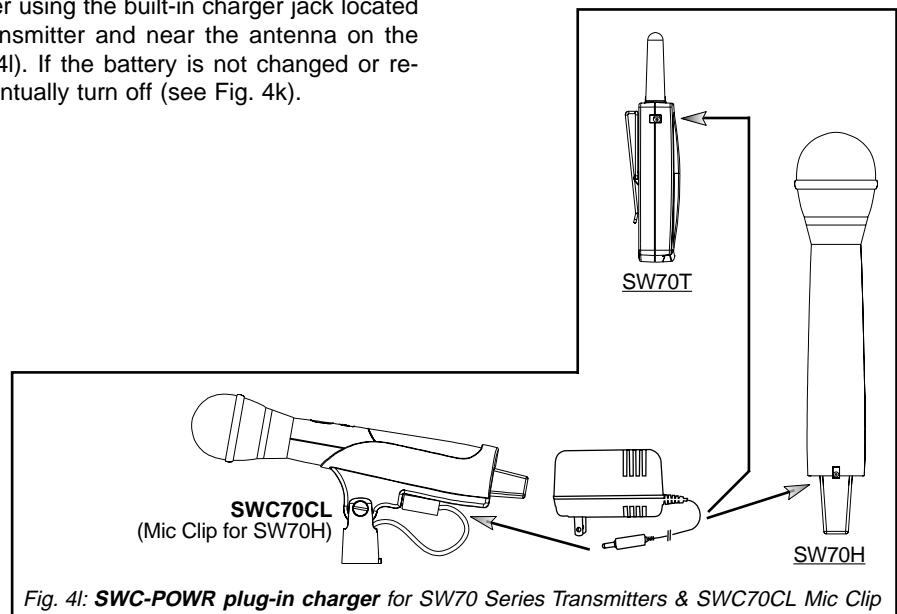

Fig. 4l: **SWC-POWR plug-in charger for SW70 Series Transmitters & SWC70CL Mic Clip**
6. Belt pack and handheld batteries can be recharged without removing them from the transmitters. Just connect charger plug to the transmitter jack (see Fig. 4l).
**Equipment Connections.** Each SW70T or SW70H transmitter comes equipped with an SWC-POWR Tireless Wireless™ plug-in charger (see Fig. 4l). In addition, each SW70H comes with its own battery-charging mic clip (SWC70-CL). The SWC-POWR charger can be plugged directly into either the transmitter or into the clip. A Sabine rechargeable battery (SWBC1) will charge whenever the mic clip is connected to the Sabine SWC-POWR charger and the handheld is properly placed within the mic clip.
**Battery Warnings.** When the transmitter battery voltage drops below a critical threshold, the battery icon (which normally displays the voltage level) will begin to flash. This will occur on the transmitter and receiver and is an indication that you need to replace the battery, or charge it by placing the handheld mic in the charger clip. **NOTE:** Microphone will still transmit audio when placed in clip. Alternatively, you can connect the charger directly to the transmitter using the built-in charger jack located on the side of the beltpack transmitter and near the antenna on the handheld transmitter (see Fig. 4l). If the battery is not changed or recharged, the transmitter will eventually turn off (see Fig. 4k).